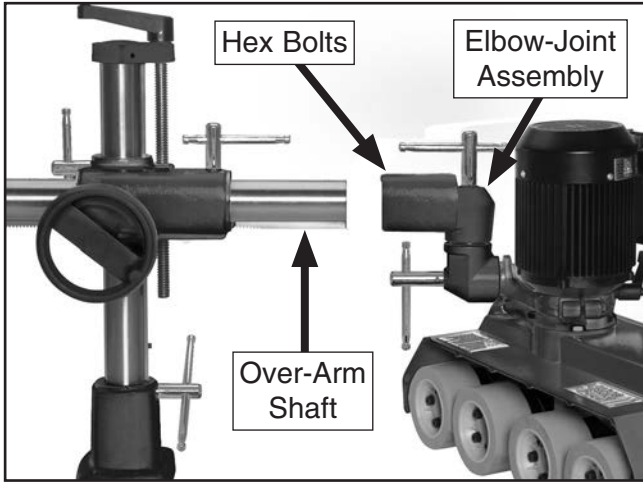

Figure 10. Attaching power feeder to over-arm shaft assembly.
7. Loosen (2) hex bolts on elbow-joint assembly and slide onto over-arm shaft (see **Figure 10**).